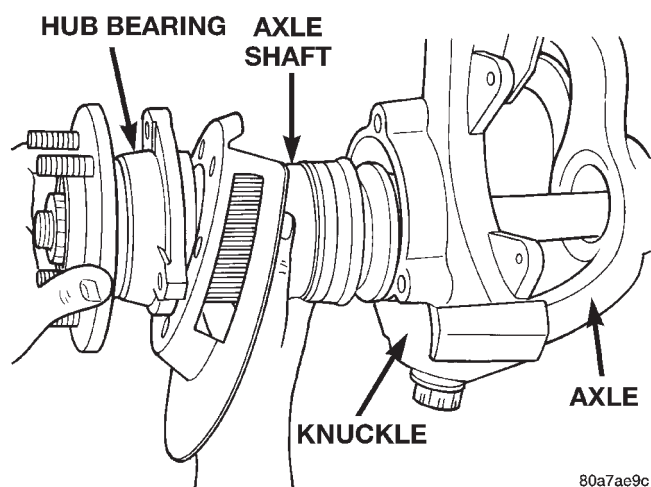

Fig. 26 Hub Bearing and Axle Assembly
(8) Remove hub bearing and axle shaft assembly (Fig. 26), or axle shaft from axle. **Avoid damaging the axle shaft oil seals in the axle housing.**